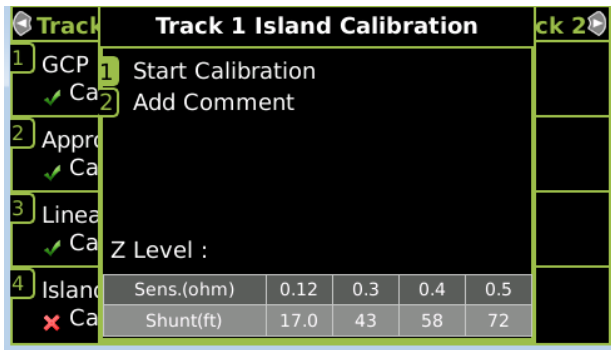
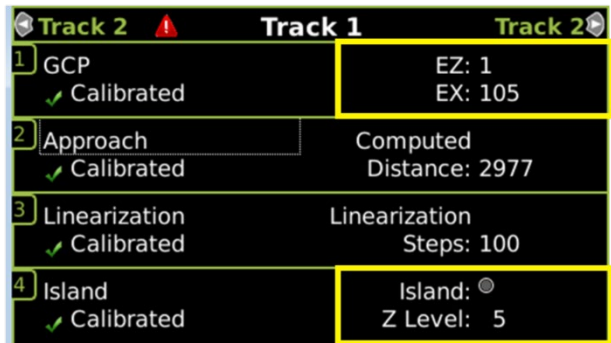

Figure 5 Island Calibration Window
Figure 6 Track Detail View EZ Level and Island Z Level
Step 23	If the Linearization Steps value for the second approach (step 21, Figure 6) is greater than or the same as the Linearization Steps value recorded for the first approach (step 9, Figure 5), go to step 31. If the Linearization Steps value for the second approach (step 21, Figure 6) is less than the value recorded for the first approach (step 9, Figure 5), go to step 24.
Step 29	<p>Enter the computed approach distance value recorded for the first approach (step 5, Figure 5) into the New Value field using the keypad numbers and select ENTER.</p> <ul style="list-style-type: none"> The entered value appears on 2) Approach.
<p>Step 2</p>	<p>Temporarily install a hardwire shunt beyond the island receiver rail connections at the appropriate distance specified below the Calibration Required message.</p> <ul style="list-style-type: none"> Shunt distances for island frequencies are provided in the table following the Island Calibration procedure. The appropriate ones for the configured island frequency are also shown on the calibration screen as shown in Figure 5. Ensure EZ value is less than or equal to 5. See Figure 6.
Step 6	Following railroad policies concerning the use of jumper wires. Place a jumper wire across the RCV1 and RCV2 receiver wires at the main terminal board and verify the EZ value is less than or equal to 5. If the EZ value is greater than 5 and the jumper is confirmed to be securely connected, use additional jumper wires in parallel until an EZ less than or equal to 5 is achieved. The crossing should activate. Note the Island Z value with the jumper applied. See Figure 6.
Step 10	If either Island Z value is 40 or greater, remove the board from service and contact Siemens Rail Automation Technical Support at (800) 793-7233 Option 1. Inform the operator you have a track board that failed functional checks for Island Z value. Be prepared to provide the following information: <ol style="list-style-type: none"> 1. Your contact information 2. Part number 3. Serial number and hardware version 4. The EZ and Island Z values recorded during the test.